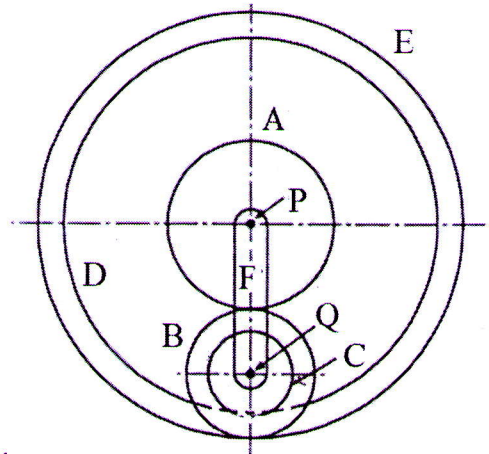

Fig. 4
- 15 A compound epicyclic gear train is shown in Fig. 4. The gears A, D and E are free to rotate on the axis P. The compound gear B and C rotate together on the axis Q at the end of arm F. All the gears have equal module. The number of teeth on the gears A, B and C are 18, 45 and 21 respectively. The gears D and E are annular gears. The gear A rotates at 120 rpm counter-clockwise and the gear D rotates at 450 rpm clockwise. Find the speed and direction of the arm and the gear E.